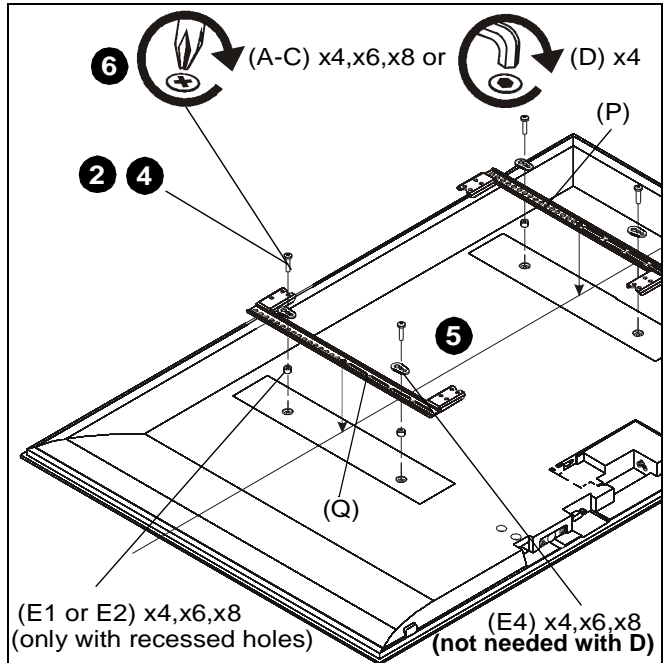
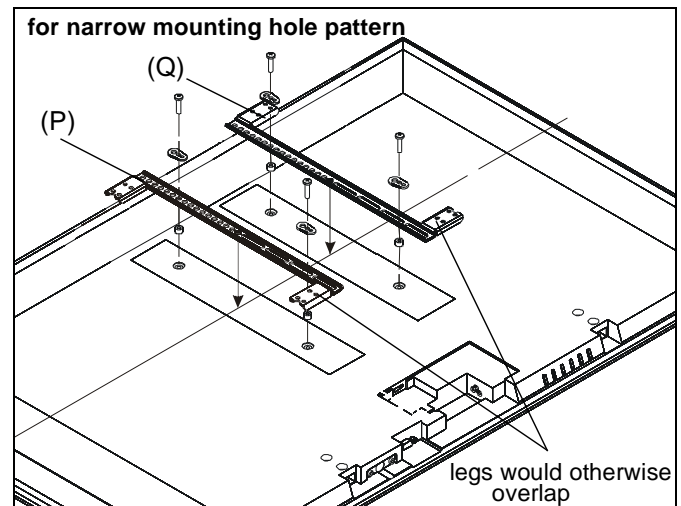

Figure 20
Figure 21
2. Select screw *diameter* by examining hardware (A-D) (4mm, 5mm, 6mm or 8mm) and comparing with mounting holes on display. (See Figure 20)
3. Select spacers: (See Figure 20)
4. Select screw *length*: (See Figure 20)
- NOTE:** Universal washers (E4) are not needed if using M8 button head cap screws (D).
5. Place uprights (P and Q) on display, ensuring: (See Figure 21)
**NOTE:** If installing to a display with a narrow hole mounting pattern, reverse uprights (P and Q) so that the upright legs do not overlap onto each other. (See Figure 21)
6. Using Phillips screwdriver, carefully install selected screws through universal washers (E4, if required), uprights (P and Q), and spacers (E1 or E2, if required), into display. (See Figure 20)